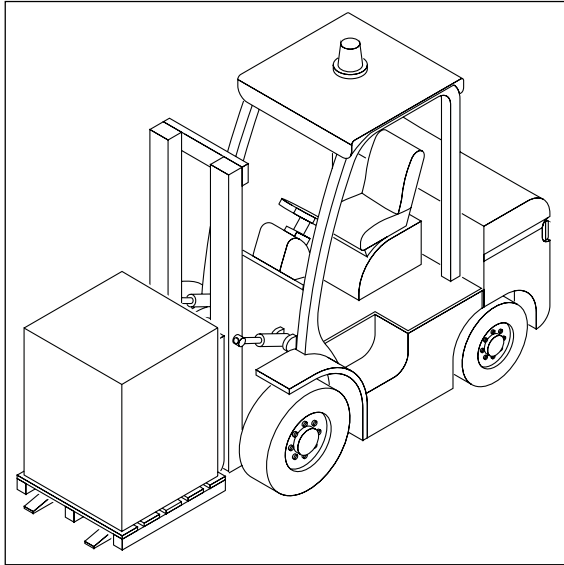

Fig. 4
- Handle the packaged machine only with forklift truck or transpallet with forks (Fig. 4).